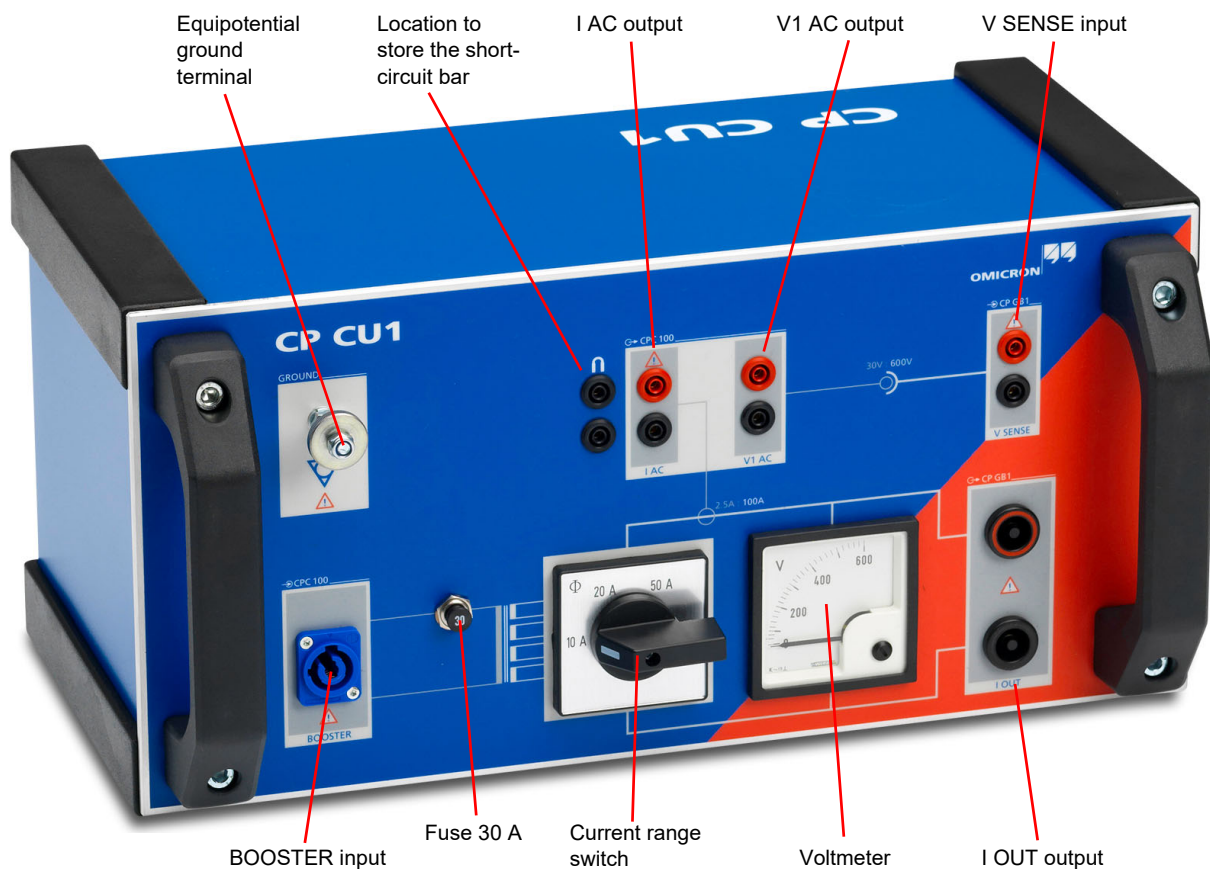

Figure 2-2: Front panel of the *CP CU1*
- Figure 2-2 below shows the *CP CU1*'s functional elements.